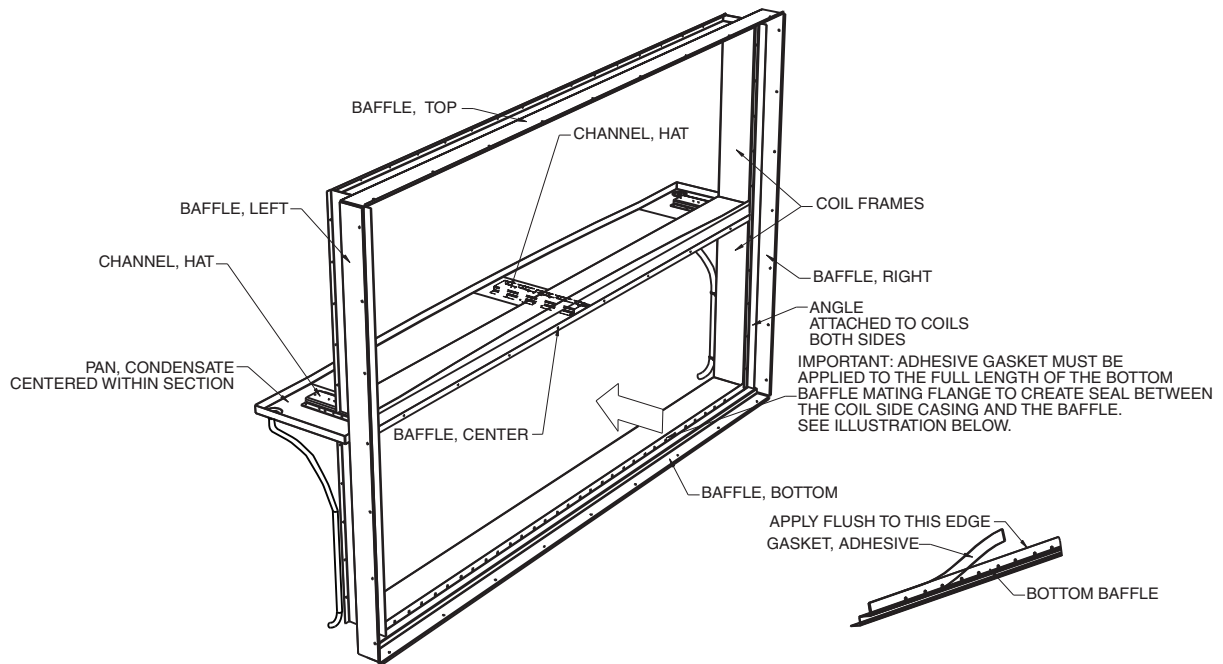
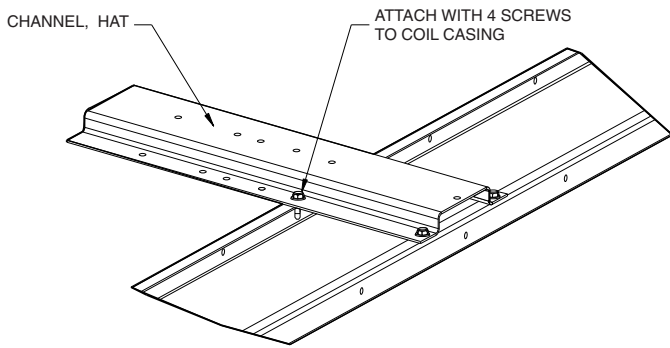

Fig. 94 — Double Slope Condensate Drain — Apply Gasket
Fig. 95 — Secure Spacer
5. Before placing the coils inside the unit, apply the adhesive backed gasket to the lower baffle, spanning the entire unit, on the surface that will contact the coil (see Fig. 94).
- b. Place the heavy vertical angle (which is full height of the finished coil bank) along the upstream right and left side of the mounting baffles (see Fig. 94). Install screws through this angle first and then into the baffles, engaging the coil tube sheet mounting holes and securing the coil within the unit.
8. For a double slope drain pan, secure two spacers (hat channels) to each end of the bottom of the upper coil casing before placing the coil in position (refer to Fig. 94). For single slope drain pan secure spacer (hat channel) to achieve the intended slope (left or right). See Fig. 95.
12. On the upstream side of the stacked coils, attach the center baffle (see Fig. 94), spanning the two coils with the crease in the baffle away from the coils, centering it between the side baffles, and aligning the baffle with the holes in the coil casings.
15. Secure the uppermost coil from the upstream side, so that the fastening screws provided pass through the vertical angle and the baffles and engage the coil casing. See Fig. 94.